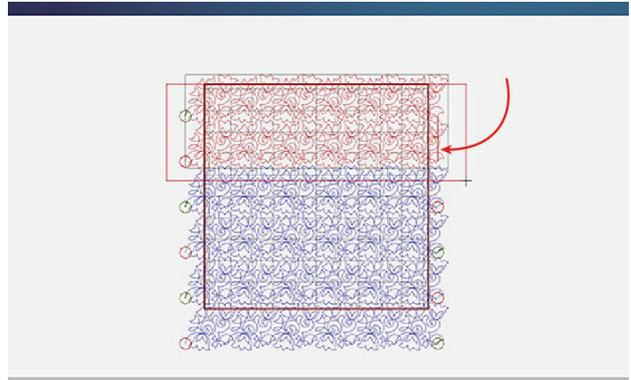

Fig. 56
15. Next, with Row 1 still selected, select or tap Row 2. Both rows become active (highlighted in red) and a stitch line forms from the end of Row 1 to the start point of Row 2 (Fig. 56). Note that rows can only be linked if they are within the same Safe Area.